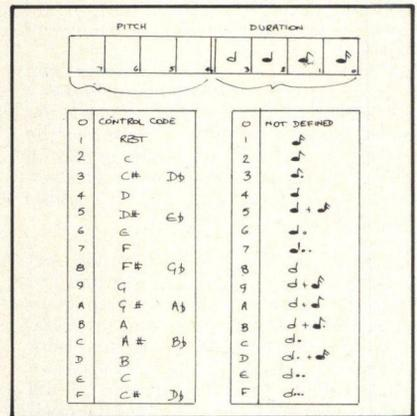

Figure 2.
The codes for all the various functions are summarised in figures 2 & 3, and it will be noticed from figure 3 that not all of the available control codes are used for the octave shift function. These can be used in a variety of ways, as suits the user but a few interesting possibilities are: (1) switching external voicing circuitry to change the characteristics of the note produced, (2) generating synchronising pulses to, for instance, facilitate multi-track recording or (3) to trigger percussion generators. This latter is possibly the easiest to implement since the extra circuitry is very simple.